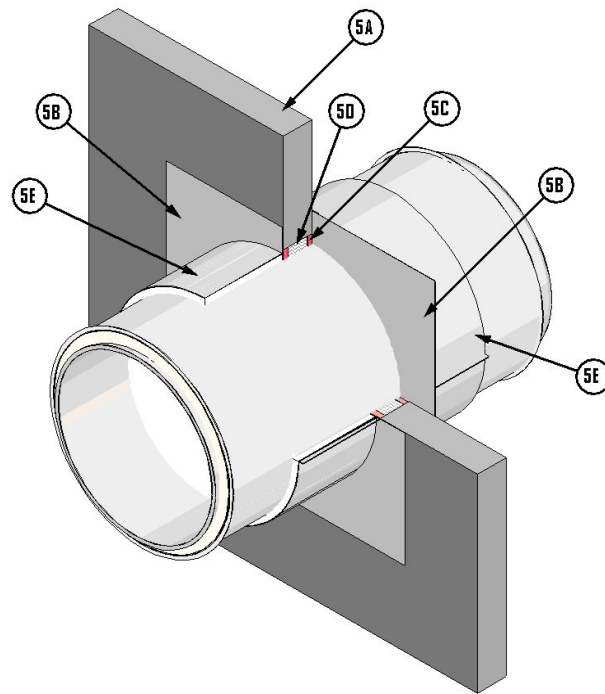

Figure 7. Wall Firestop
5. WALL PENETRATION FIRESTOP: When required to penetrate a fire-rated wall assembly, install the firestop system described in Items 5A to 5F (see Figure 7).